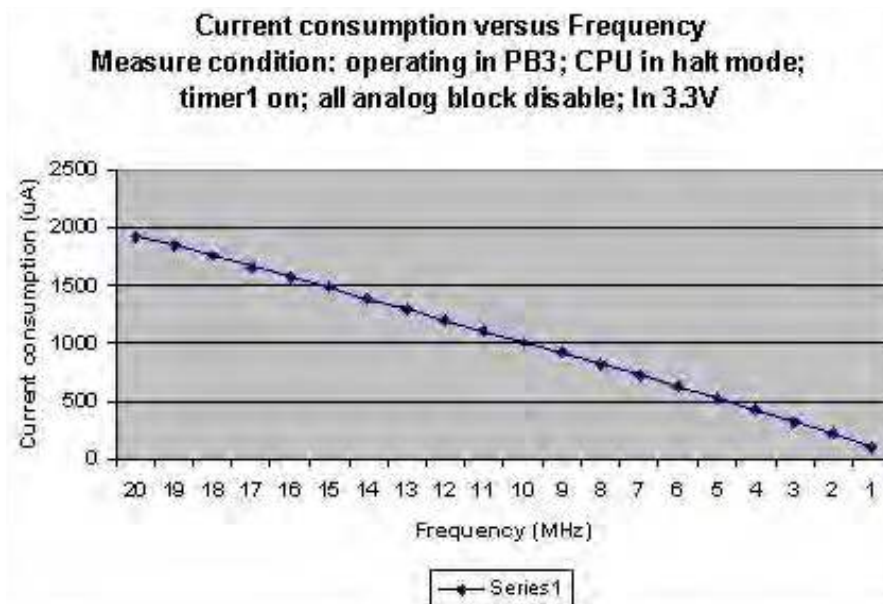
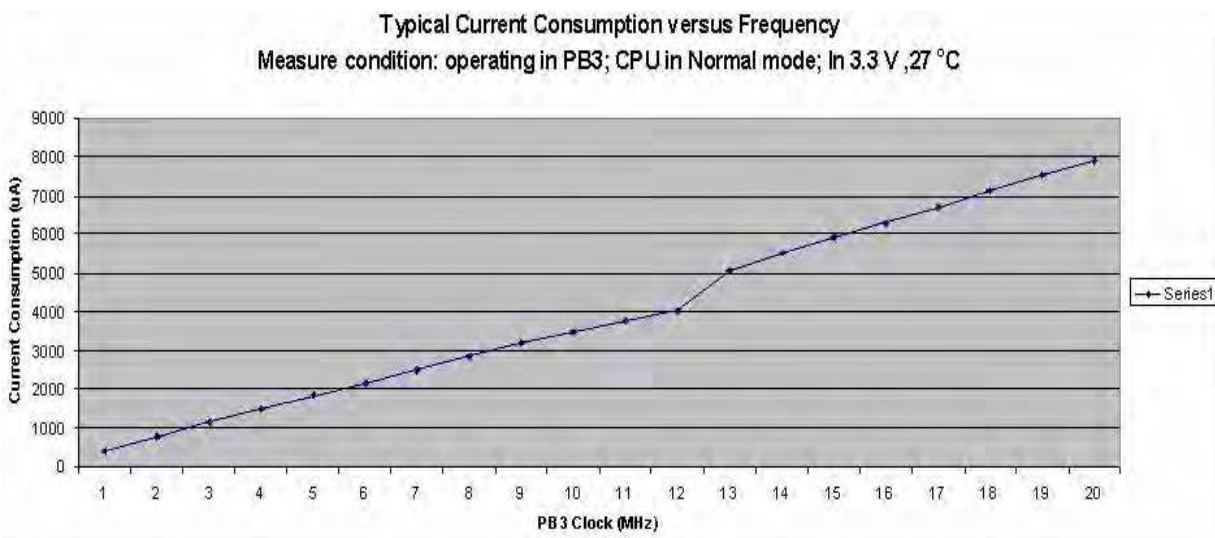

Figure 28. I_{CC} versus System Clock Frequency (HALT Mode)
Figure 29. I_{CC} versus System Clock Frequency (NORMAL Mode)
3. See Figure 28 on page 187 on page 187 for HALT Mode current and Figure 29 on page 187 for ACTIVE (Normal) Mode current. The typical values are taken from the chart at 20MHz.
Figure 28 displays the typical current consumption while operating at 25°C and 3.3V versus the system clock frequency in HALT Mode.
Figure 29 displays the typical current consumption versus the system clock frequency in NORMAL Mode.